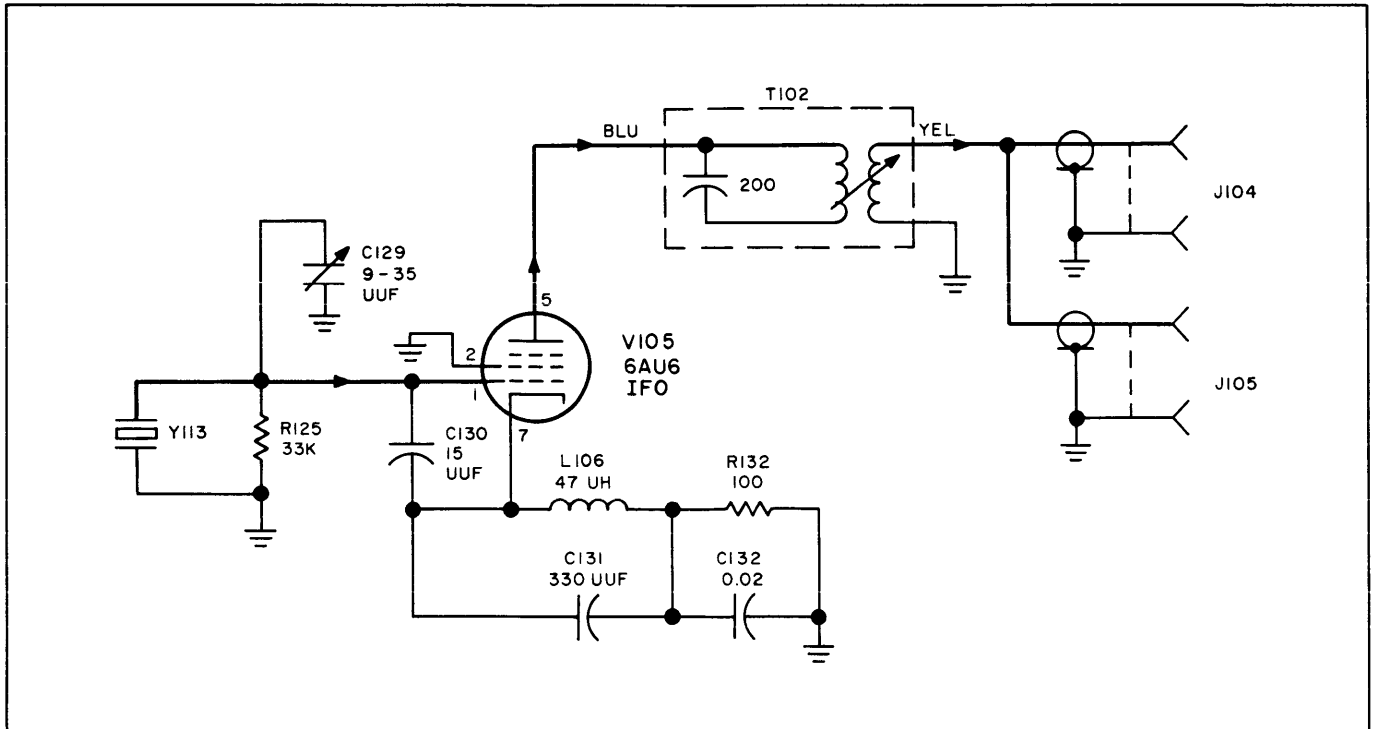

Figure 4-6. Simplified Schematic of IFO Circuitry
a. CIRCUIT ANALYSIS. (See figure 4-6.) - The IFO circuit consists of oscillator V105 and its associated crystal Y113; the operating frequency of V105 depends on the type crystal used. The frequency is 3.5 mc if the TRX-1 is to be used with the GPR-92 Receiver. V105 is connected in a tuned-plate tuned-grid configuration with crystal Y113 replacing the grid tuned circuit. Capacitor C129 is used as a fine tune in this circuitry and is capable of compensating for varying circuit parameters such as an aging crystal. Excitation capacitors C130 through C132 control the voltage applied to Y113. Transformer T102 in the plate circuit of V105 is tuned to the operating frequency of the stage. The output from V105 is coupled through transformer T103 to the IFO jacks J104 and J105 at the rear of the unit.